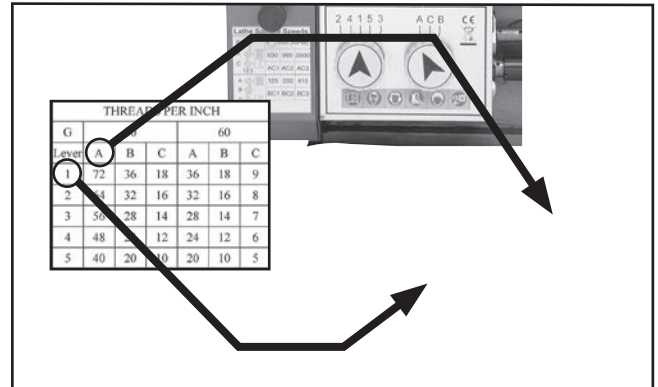

Figure 77. Gearbox dial settings for 72 TPI.
4. Position gearbox dials, as shown in **Figure 77**.